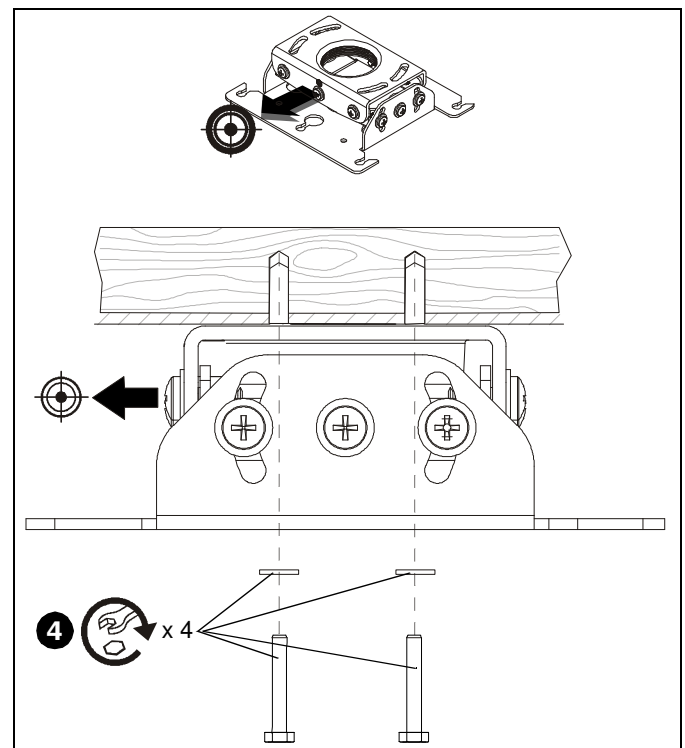

Figure 5
4. Secure RPE to structure using four 1/4" x 2" minimum length lag bolts (not included) and four 1/4" flat washers (not included). (See Figure 5)